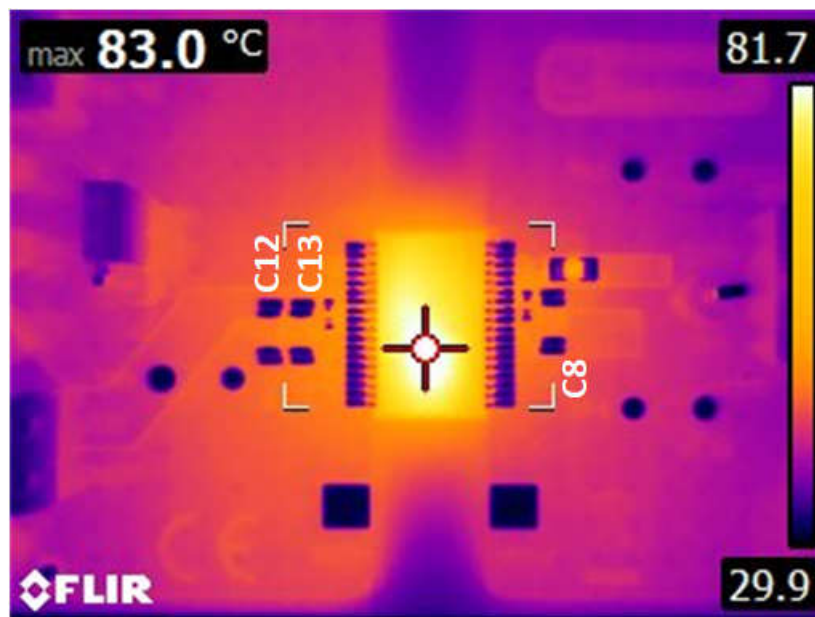

Figure 14-6. Thermal Image
- f. As seen in Figure 14-6, there is a point of diminishing return, regarding the number of vias and size of the thermal via array. For 1.5-W of output power, heat transfer is shown to quickly diminish just beyond C12 and C8. The distance from the inner pad line of U1 to C12 is 320 mils.